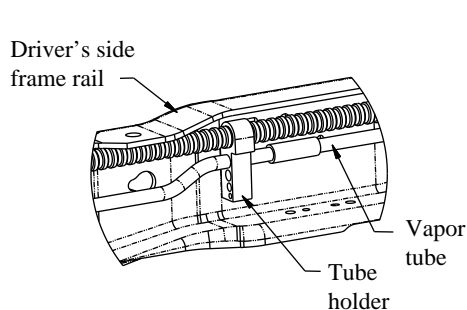
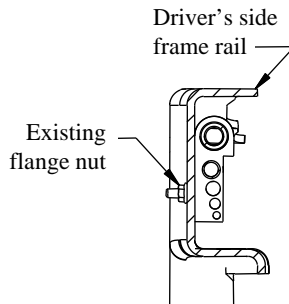
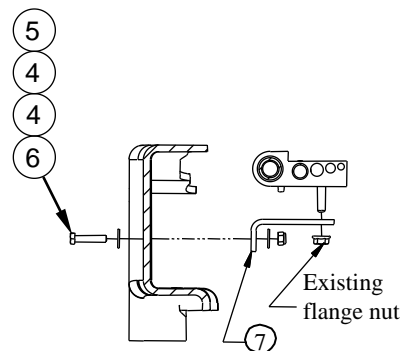

Figure 3a
Figure 3b
Figure 3c
2. **On 2005 to 2010 Gas Engine Vehicles Only.** The vapor tube running along the inside of the driver's side frame rail must be relocated prior to installing the driver's side bracket. See Figure 3a. Remove the flange nut from the outside of the frame and keep for later use. See Figure 3b. Rotate the tubes up and out of the way. Install the L-bracket (7) with 1/4" hardware (4)(5)(6), as shown in Figure 3c. Tighten the L-bracket (7) to the frame, but leave the tube holder loose to aid bracket installation.
14. **On 2005 to 2010 Gas Engine Vehicles Only.** Use the factory flange nut that was removed in Step 2 to tighten the tube holder onto the L-bracket (7) as shown in Figure 3c.